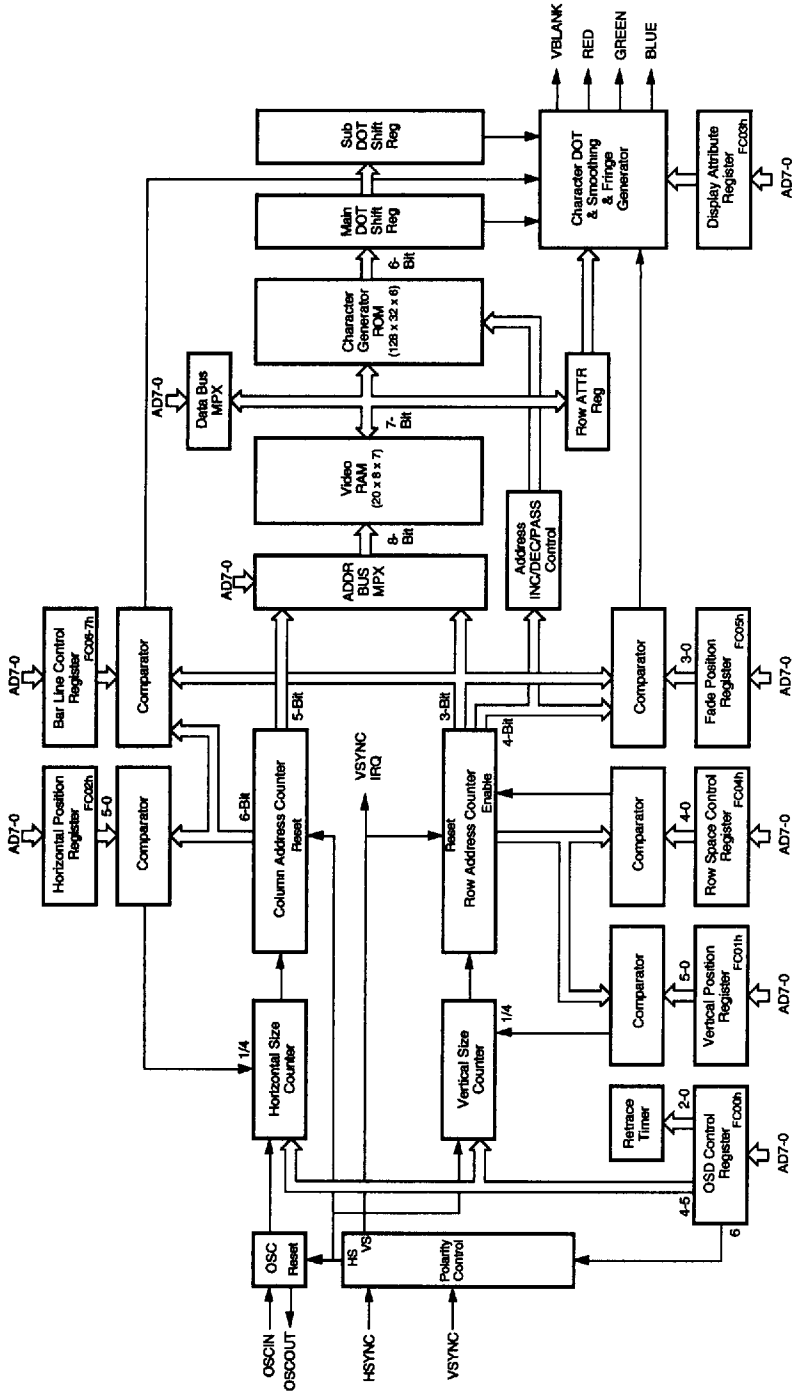

Figure 10. On-Screen Display Block Diagram
**On-Screen Display (OSD).** The OSD has a capability of displaying 8 rows x 20 columns of 128 kinds of characters for either high resolution (11 x 15 dots) pattern (Figure 10).